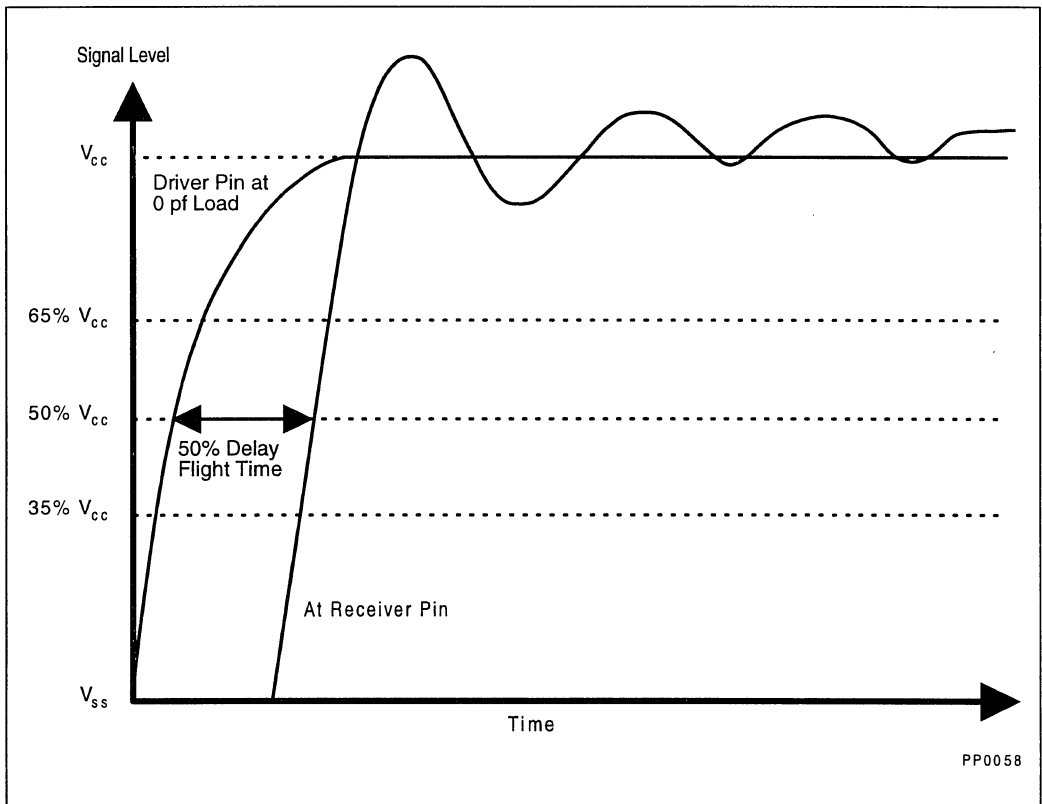

Figure 23-8. V_{cc} Measurement of Flight Time
29. This is a flight time specification, that includes both flight time and clock skew. The flight time is the time from where the unloaded driver crosses 1.5V (50% of min V_{CC}), to where the receiver crosses the 1.5V level (50% of min V_{CC}). See Figure 23.8.